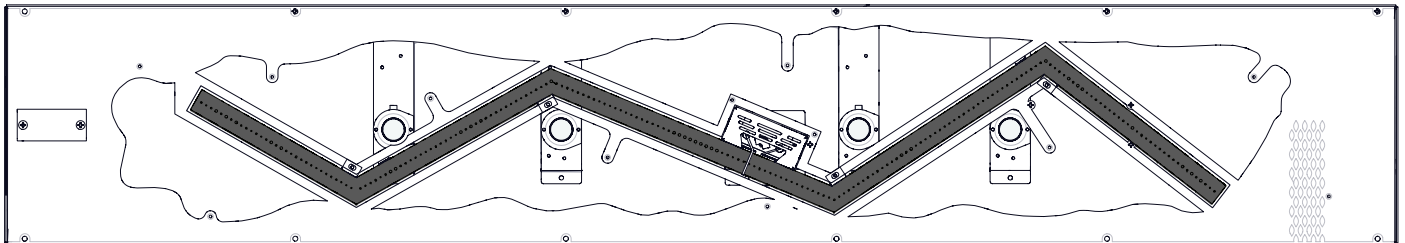

Fig. 1
2. Thinly separate the **glowing embers** and place them on the burner. Avoid covering the large cluster of ports, as this will reduce the height of the flame (**Fig. 1**).